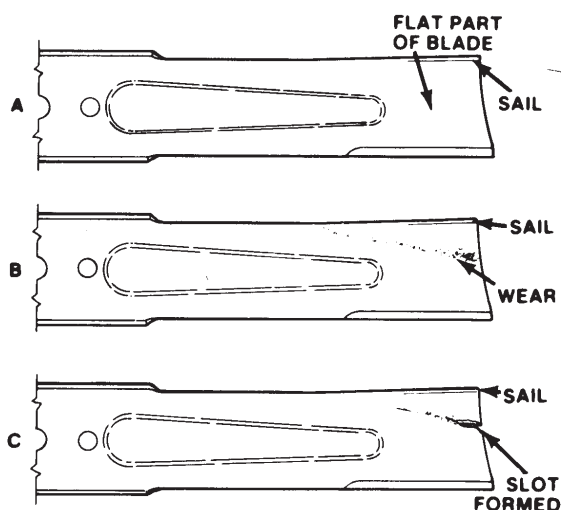

Figure 27
2. Examine the cutting ends of the blade carefully, especially where the flat and curved parts of the blade meet (Fig. 27-A). Since sand and abrasive material can wear away the metal that connects the flat and curved parts of the blade, check the blade before using the machine. If wear is noticed (Fig. 27-B), replace the blade; refer to Removing the Cutting Blade, page 19.
If the blade is allowed to wear, a slot will form between the sail and flat part of the blade (Fig. 27-C). Eventually, a piece of the blade may break off and be thrown from under the housing, possibly resulting in serious injury to yourself or bystanders.